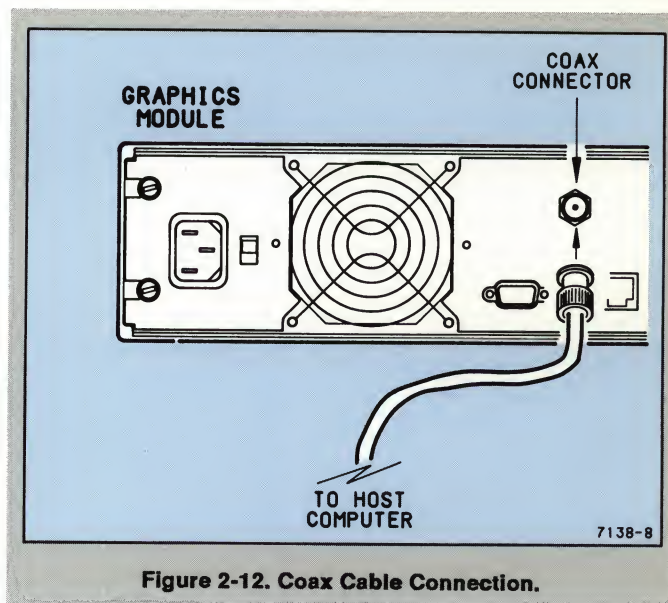

Figure 2-12. Coax Cable Connection.
6. If you are connecting to an IBM host, connect the coaxial cable's BNC connector to the COAX CONNECTOR port. Push and twist the cable's BNC connector clockwise into its locked position. Refer to Figure 2-12.